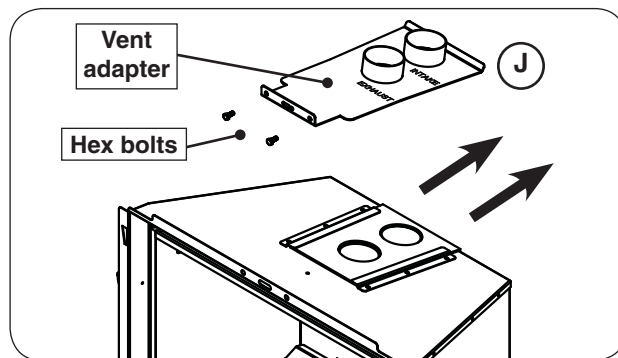

Fig. 25-1 Remove vent adapter
10. Remove the vent adapter from the top of the insert. Unfasten the two hex bolts using a $\frac{7}{16}$ " nut driver and slide the adapter out (see Fig. 25-1, J). Retain the bolts for future install.